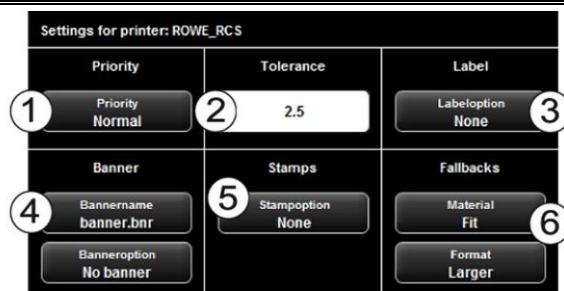

Figure 5.21: Extended settings for ROWE printer
- ROWE printer: see Figure 5.21.